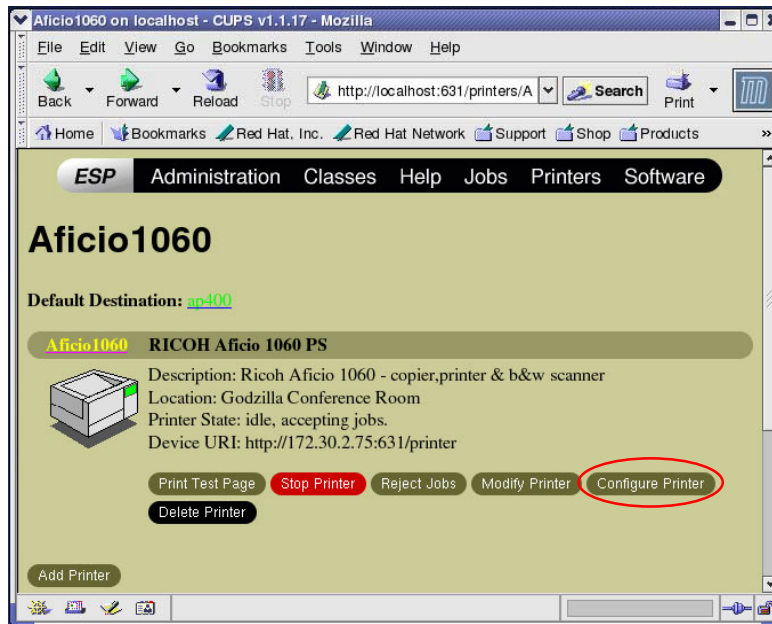

Figure 26: *CUPS Admin, Selected Printer Page*
10. Accepting your changes will return you to the Selected Printer Page as shown in Figure 26. Click on **Print Test Page**. Check if test page is successfully printed.